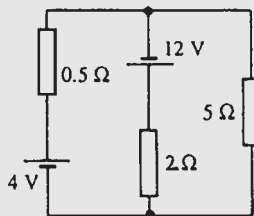

Figure 13.58
**Problem 15.** Determine the current in the 5 Ω resistance of the network shown in Fig. 13.58 using Norton’s theorem. Hence find the currents flowing in the other two branches.